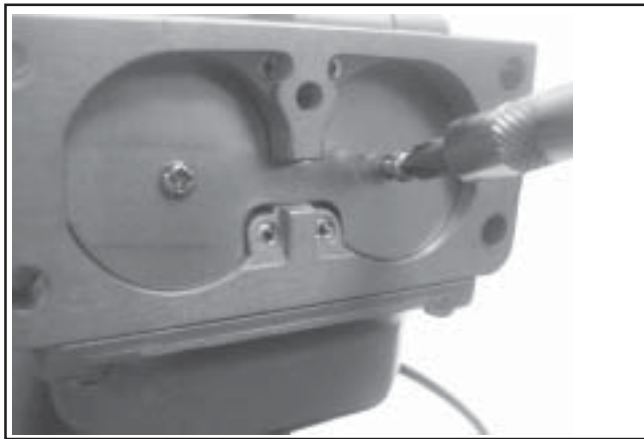

Figure 5-64. Installing Choke Plate.
11. Place a drop of Loctite® on the threads of each new screw. Position and install the new choke plate to the flat side of the choke shaft. Start the two screws. Close the choke and check the plate alignment within the carburetor throat, then tighten the screws securely. **Do not overtighten.** See Figure 5-64.